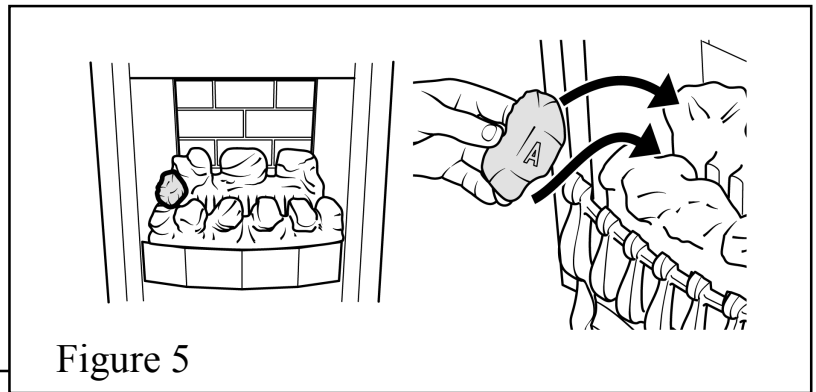

Figure 5
3. Place a type "A" coal between the front and rear base coals with the letter "A" upright and so that the coal is against the left side of the firebox. See figure 5.